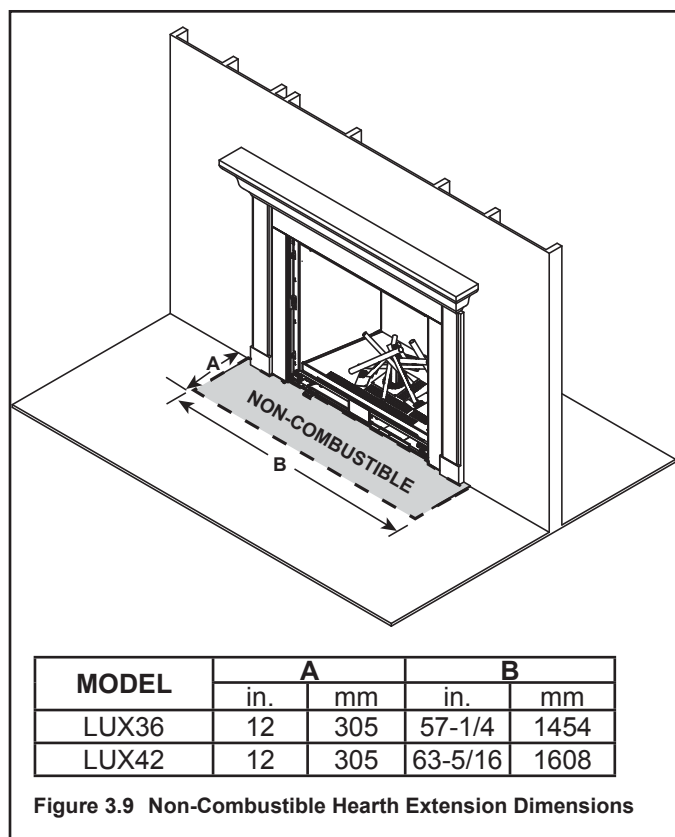
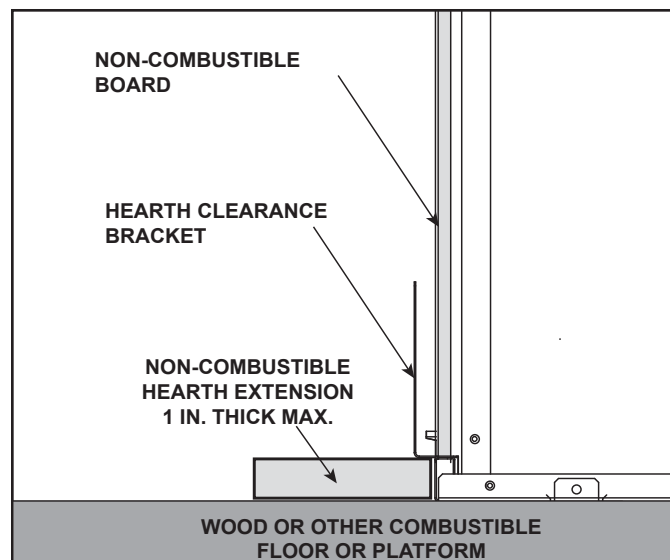

Figure 3.9 Non-Combustible Hearth Extension Dimensions
Figure 3.10 Appliance Installed on Combustible Surface
- Hearth extension must be non-combustible and serves to protect combustible floors in front of appliance. See Figure 3.9 and Figure 3.10.
- The base of the fireplace may sit on a combustible surface. See Figure 3.9. The area in front of the appliance must be protected by a non-combustible hearth extension, unless the appliance is raised a minimum of three inches above the combustible floor or hearth. See Figure 3.9 and Figure 3.10.
- If a hearth greater than one inch in thickness is desired, the appliance must be raised by the equivalent height to ensure that the hearth extension does not interfere with the installation of the glass assembly required for fireplace operation. See Figure 3.9.